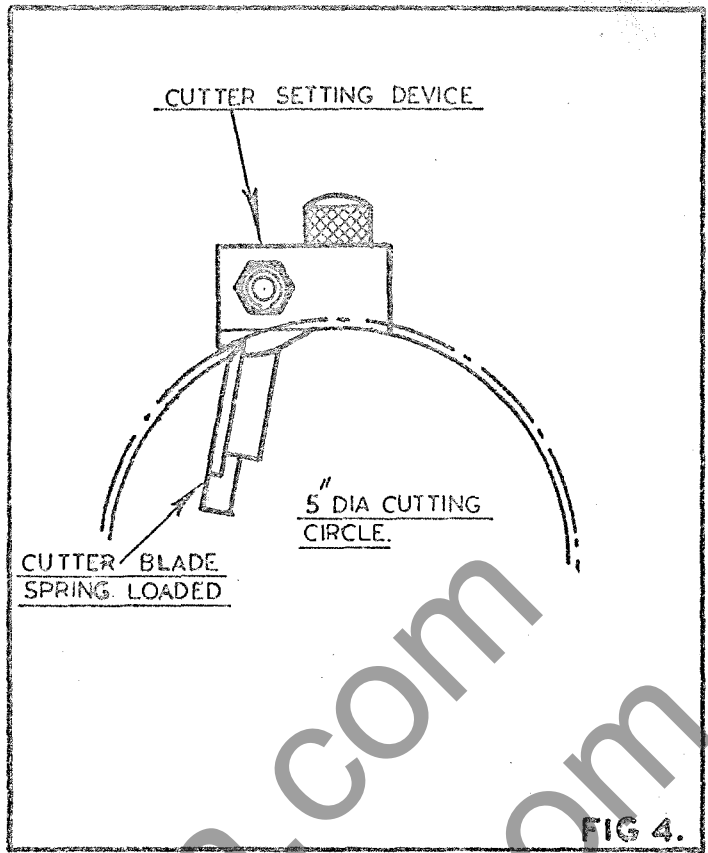

FIG 4.
3. To re-set the knives. Place the knife in the slot making sure that all faces are clean and the clamping bar free from burrs. Press the knife into the cutterblock and lock the setting device to the cutterblock body with the knurled headed screws supplied until the predominant pads rest on the cutterblock body as shown in Fig. 4. Position the knife central in the cutterblock.